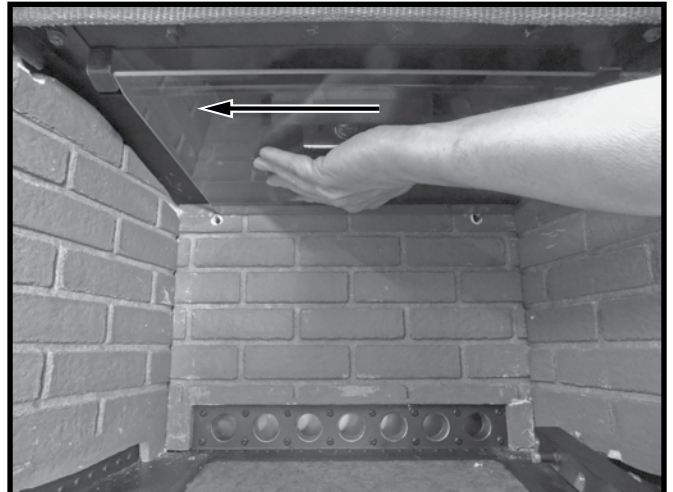

Figure 31: Sliding baffle over to rest on top of supports.
3. Slide the baffle over so that it is supported by all four supports (Figure 31).